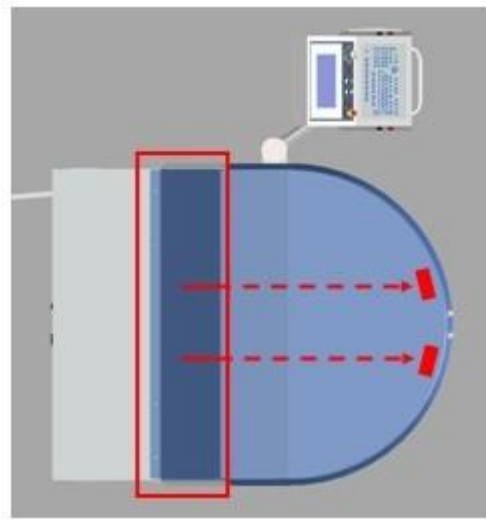

Figure 6 - Manual access points to door interlocks
**TIP:** If manual release of the Chamber Door Interlocks is required, the upper enclosure cover, see (Figure 6) can be removed. A Torx #8 tool with extension can then be passed above the chamber lamp to manually unlock the door interlocks.